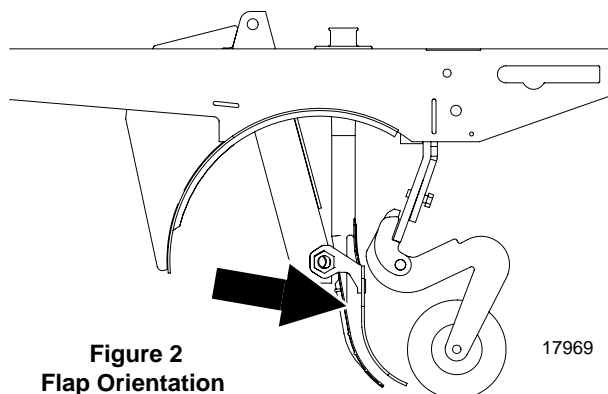

Figure 2
1. Disassemble opener disks (1) by removing 5/8-inch bolts (2) and shim washers (3). Save bolts for later reassembly.
2. Remove existing seed tube by squeezing hose clamp (4) and pulling seed hose (5) off seed tube. Remove screws (6) and pull existing seed tube out of opener body. Insert new tube and secure with screws. Place seed hose on new tube and secure with hose clamp.
3. Hook seed flap (7) over welded nuts (8). Work clip until it snaps securely over nuts.
4. Orient clip so seed flap is positioned as shown in Figure 2. Rotate clip on welded nut for proper position.